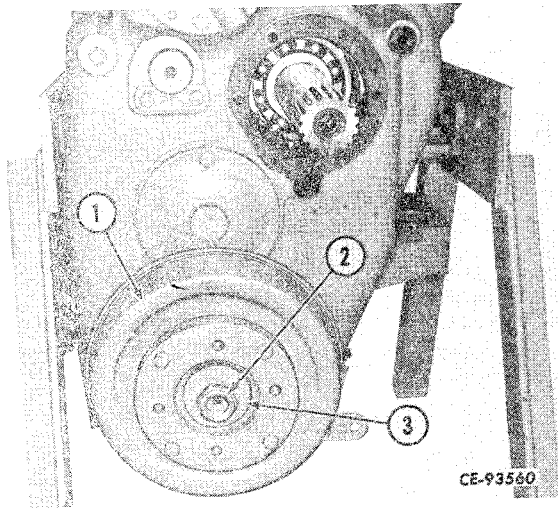

Figure 4-20
Hold the output flange and brake drum assembly (1, Fig. 4-20) and remove the hex nut (2) and flat washer (3). Remove the output flange and brake drum assembly (use a puller if necessary).